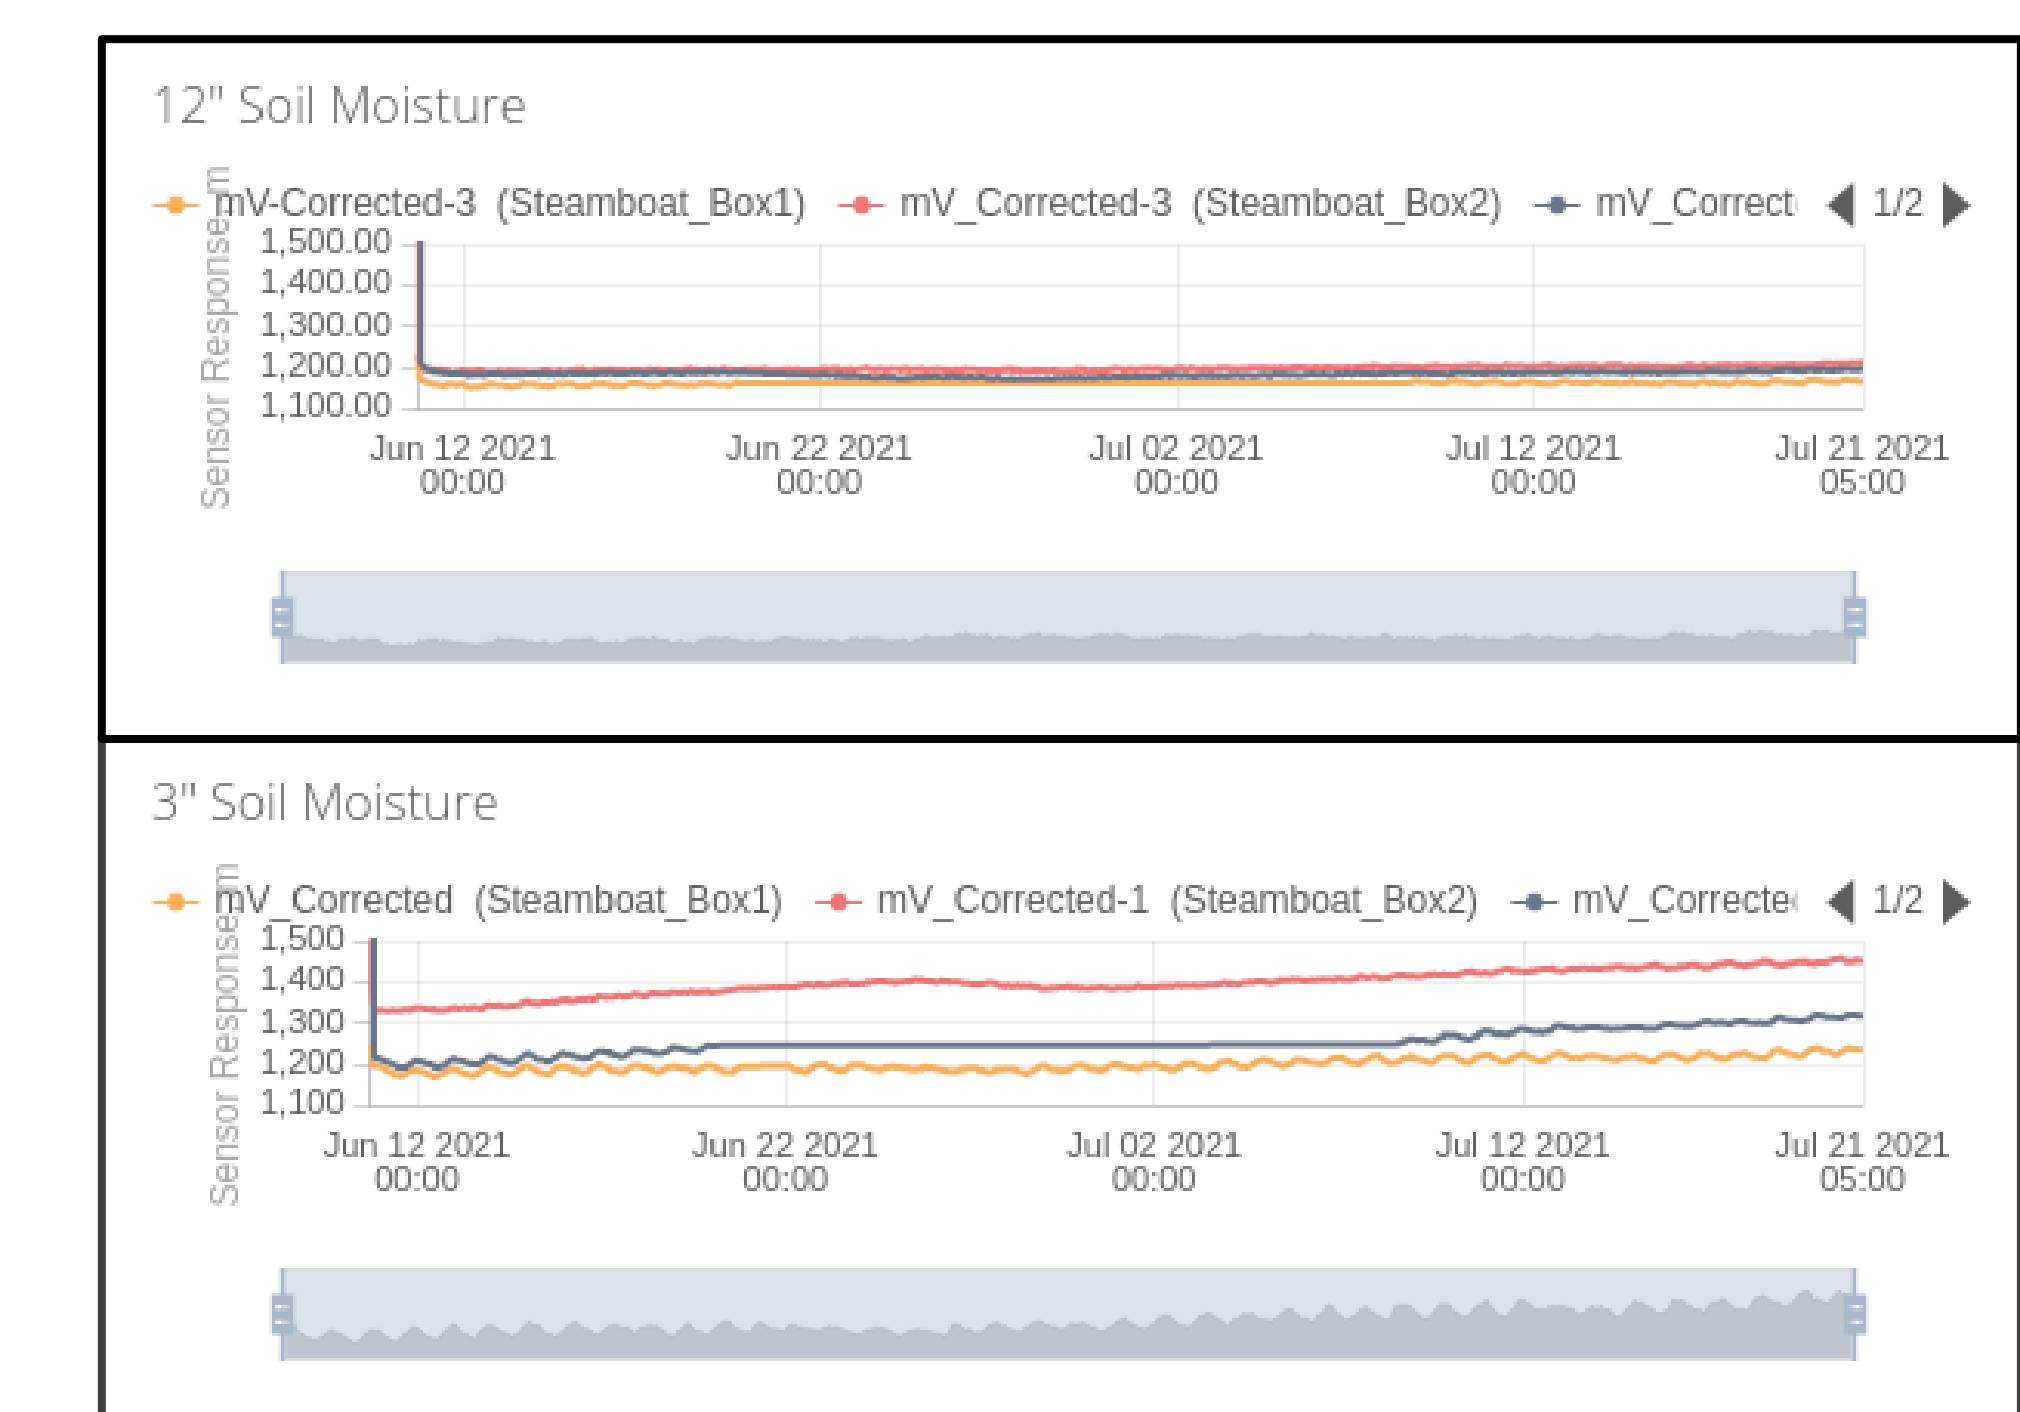

Figure 1. Example of soil moisture data displayed on live internet dashboard
- Data displayed on live internet dashboard (Figure 1)